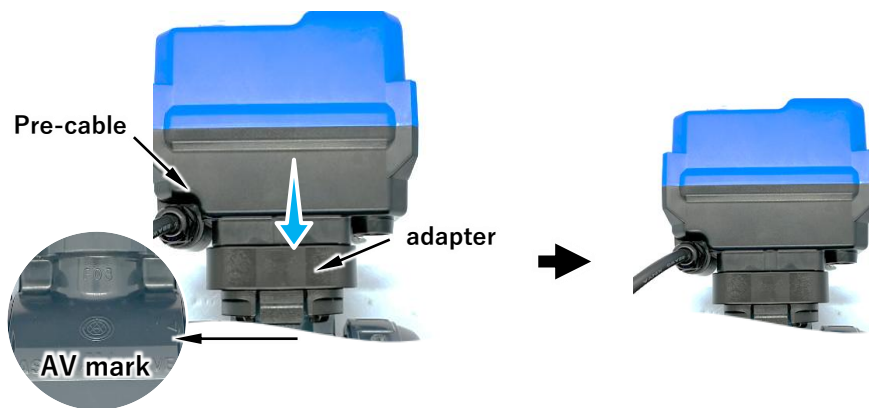

Figure 8.2-1
- 1) Confirm that the "Pre-cable" side of the actuator and the "AV mark" side of the valve are on the same side, and that the adapter is attached to the valve stem, then attach the actuator to the valve (**Figure 8.2-1**).